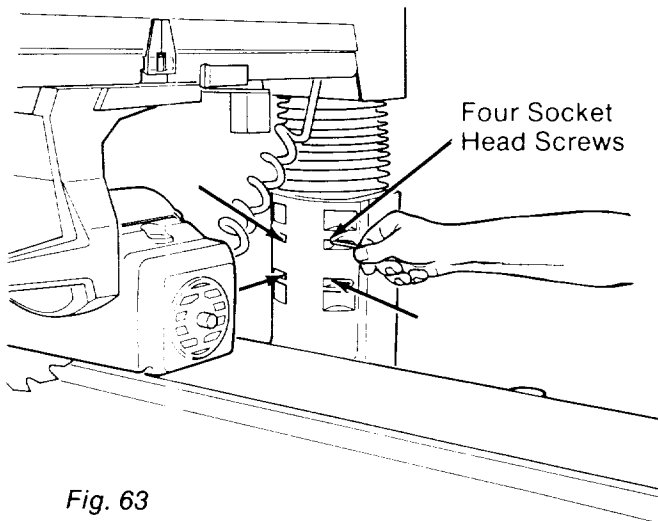

Fig. 63
12. Use a  $1/8$ " hex "L" wrench to loosen the four screws in the front of the *column support* slightly, if you have not already done so in the Adjusting Elevation section. (Figure 63)